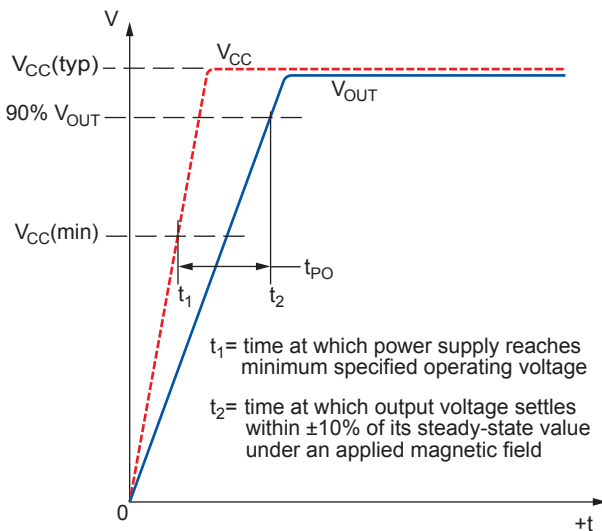

Figure 1. Definition of Power-On Time,  $t_{PO}$
**Power-On Time.** When the supply is ramped to its operating voltage, the device output requires a finite time to react to an input magnetic field. Power-On Time,  $t_{PO}$ , is defined as the time it takes for the output voltage to begin responding to an applied magnetic field after the power supply has reached its minimum specified operating voltage,  $V_{CC}(\min)$ , as shown in figure 1.